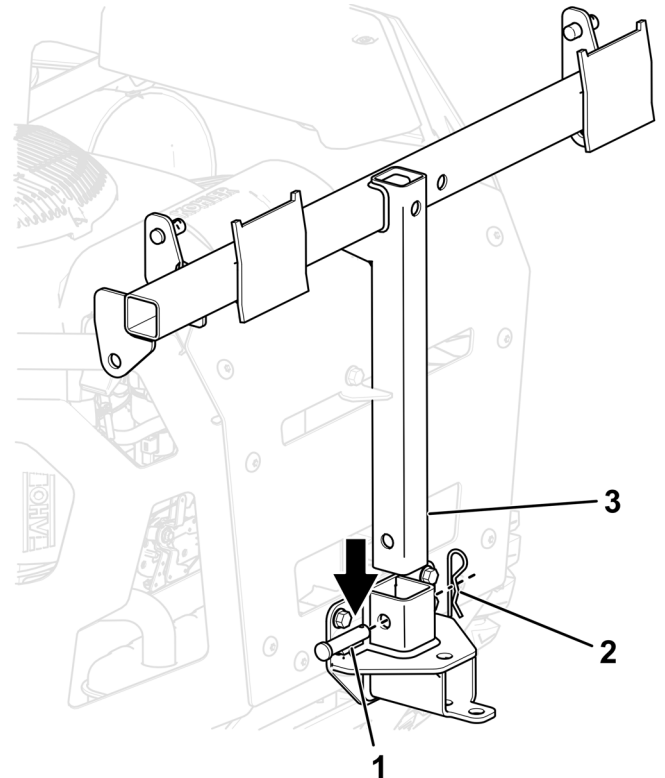

Figure 8
5. Install the bagger frame to the bagger mount bracket using the long clevis pin and a hairpin (Figure 8).